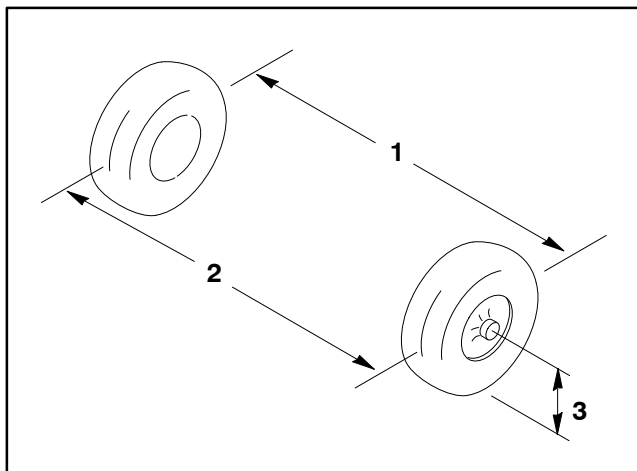

Figure 6
5. Measure distance between the front tires at axle height at both the front and rear of the tires (Fig. 6). Front wheel toe-in should be from 0 to 1/4 inch (0 to 6 mm).